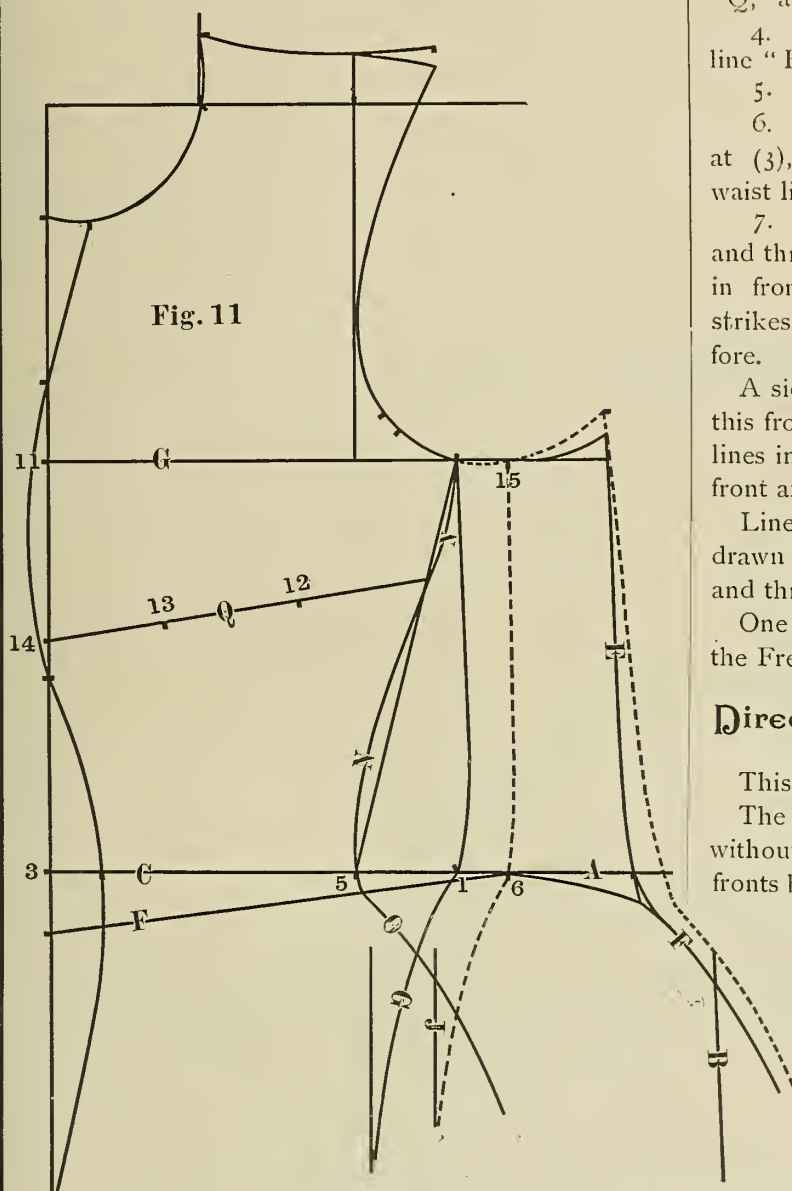

Fig. 11
(Fig. 11.)
The French Back is very pretty with front Fig. 11, without darts, and it may be used with either of the fronts before explained. The only change is, that the side body instead of being taken out of the middle or between the forms of the back, is taken off from bust and waist line inside of point 6 and 12.
4. The side bodies explained with Fig. 11, fit this back.